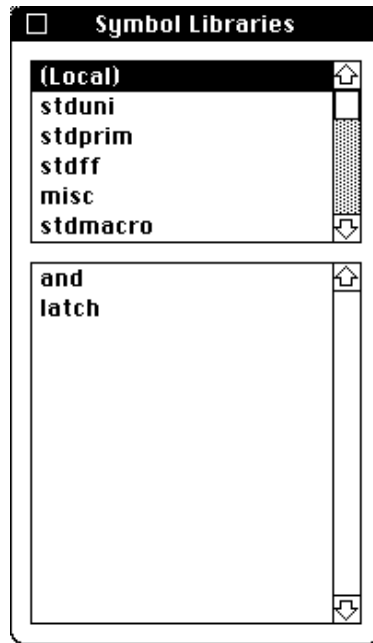

Figure 3-15 Symbol Libraries Dialog Box
6. When the local design folder is highlighted in the top list box (as it is when you first bring up the symbol selection dialog box as shown in Figure 3-15), you can see the symbols *latch* and *and*, which you just created.